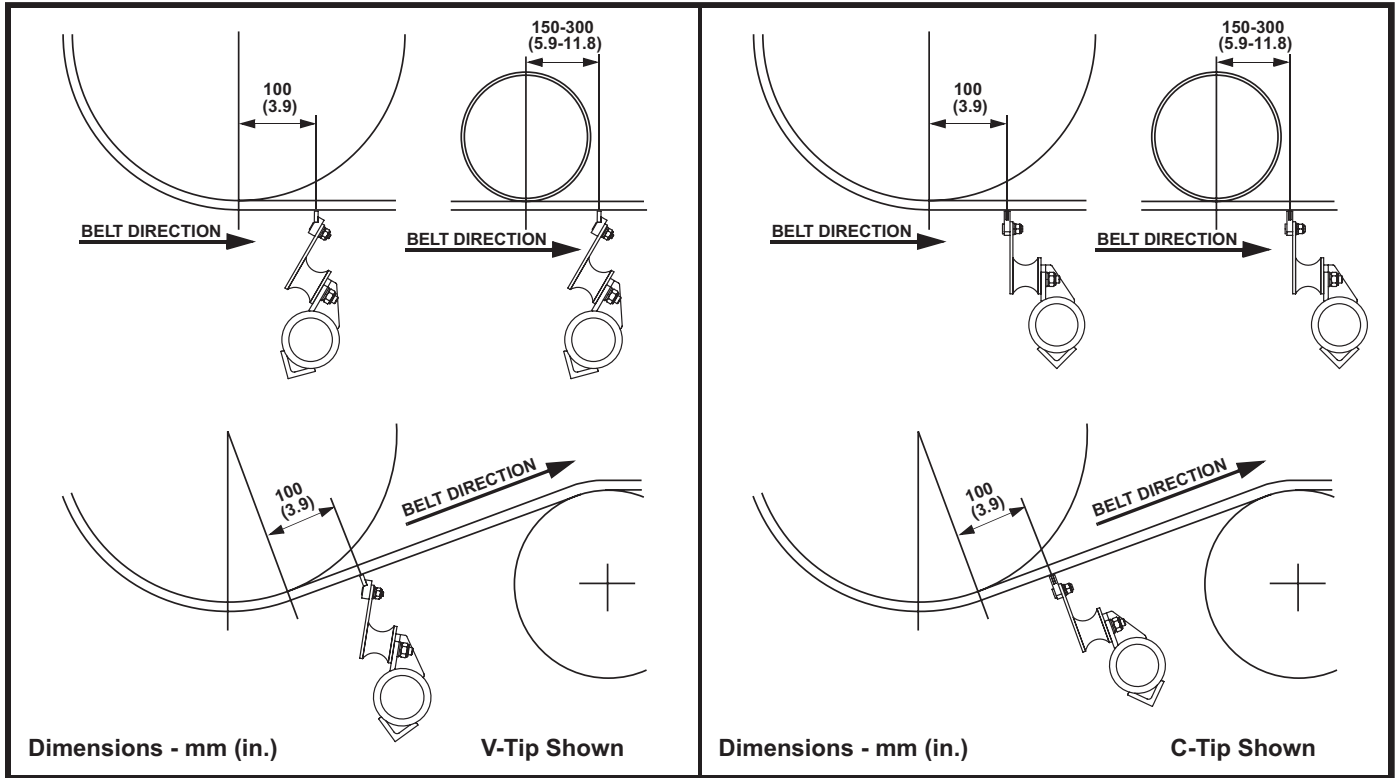

Figure 2. Martin® P2 Secondary Belt Cleaner HD Cleaner Tip Location Centerline
- On the return side of the belt, locate the tangent point at which the belt leaves the head pulley. Measure a distance of 100 mm (3.9 in.) and draw a line perpendicular to the belt at this point. (Refer to Figure 2.)
For installation below pressure rollers, mark the vertical line 150 - 300 mm (5.9 - 11.8 in.) from the centerline of the roller. (Refer to Figure 2.)